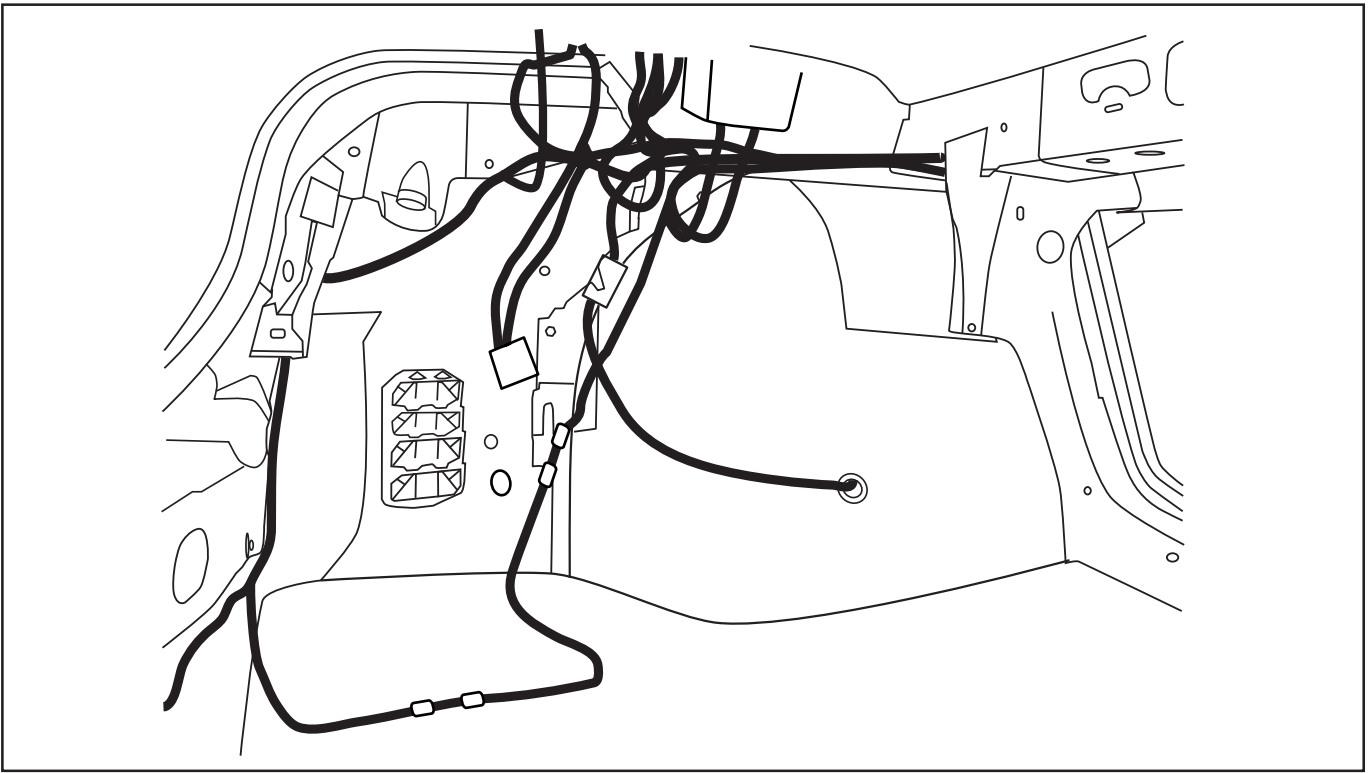

Fig. 12
14. Remove left-hand trunk trim (Fig. 12).